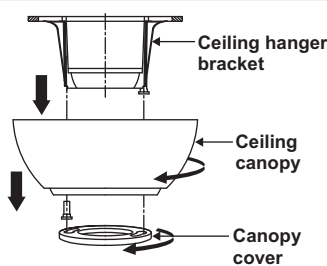

Figure 7
Step 1. Remove the decorative canopy bottom cover from the canopy by turning the cover counter clockwise. (Fig. 7)
Step 2. Remove the mounting bracket from the canopy by removing the 1 of 2 screws from the bottom of the mounting bracket and loosening the other one a half turn from the screw head. Next, turn the canopy counter clockwise to removing the mounting bracket from the canopy. (Fig. 7)